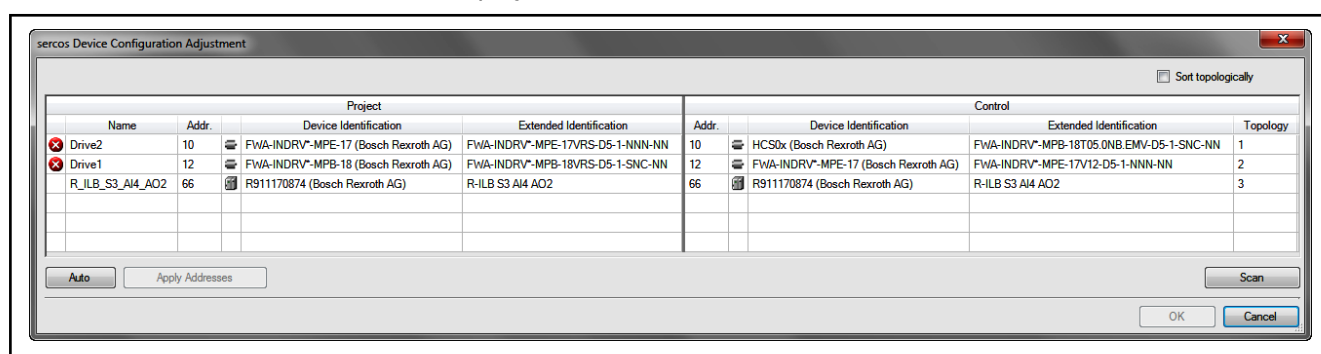

Fig. 7-4: "Sercos Device Configuration" dialog after pressing the **Auto** button
3. Click on **Auto**. IndraWorks tries to adapt the activation of the configured devices to the actually found devices to match them the best possible (see fig. 7-4 "Sercos Device Configuration" dialog after pressing the Auto button on page 331).